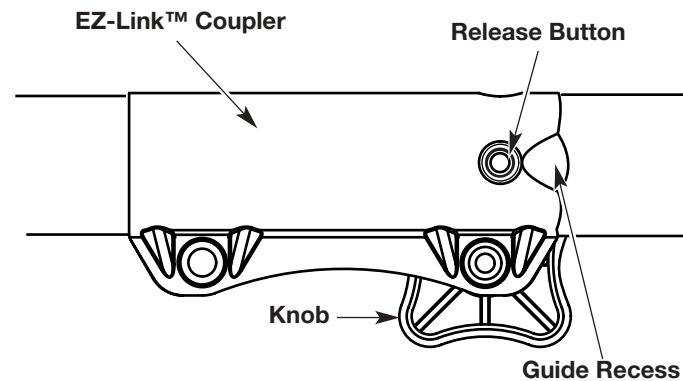

Fig. 6
1. Turn the knob counterclockwise to loosen (Fig. 6).
2. Press and hold the release button (Fig. 6).
3. While firmly holding the upper shaft housing, pull the cutting attachment or add-on straight out of the EZ-Link™ coupler (Fig. 6).
1. Turn knob counterclockwise to loosen (Fig. 6).
NOTE: Aligning the release button with the guide recess will help installation (Fig. 6).